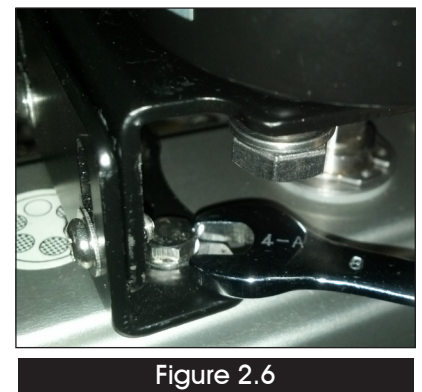

Figure 2.6
6. Once the bottom brackets are secured to the top bracket, tighten the (4) 8mm hex head bolts that secure the bottom brackets to the top of the Actuator (Figure 2.6).